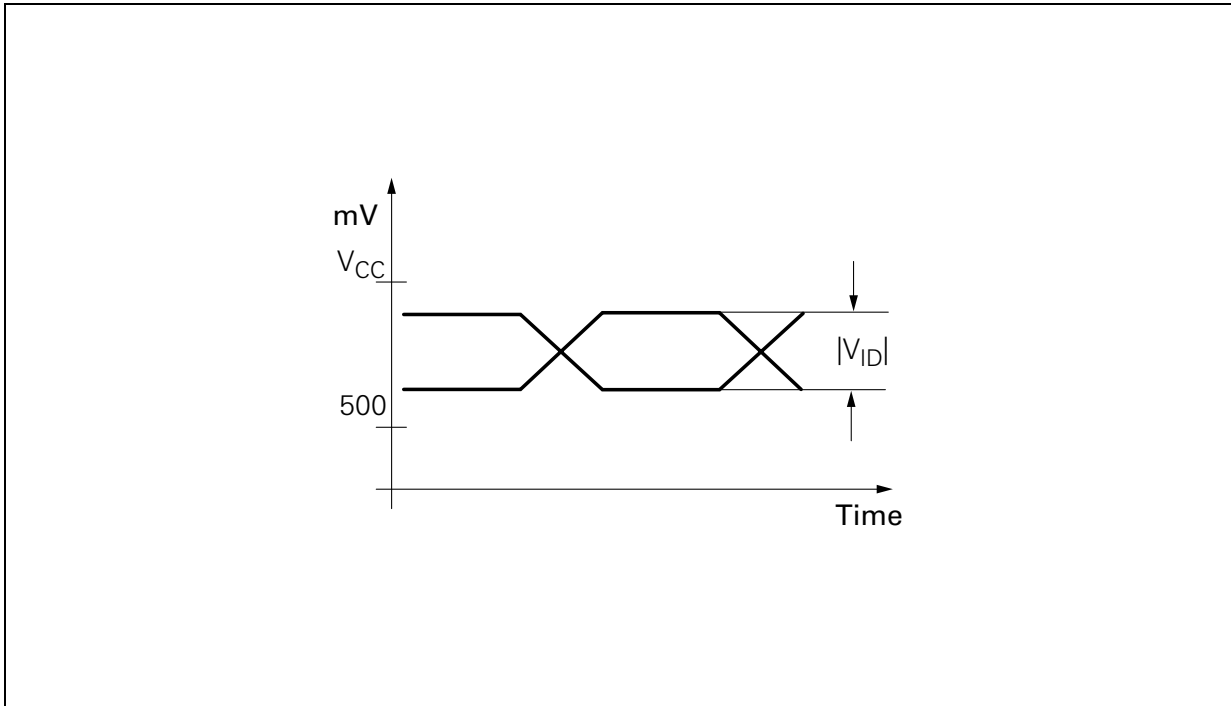

Figure 5 Input Level Diagram
- 4) Input level diagram: see **Figure 5**.